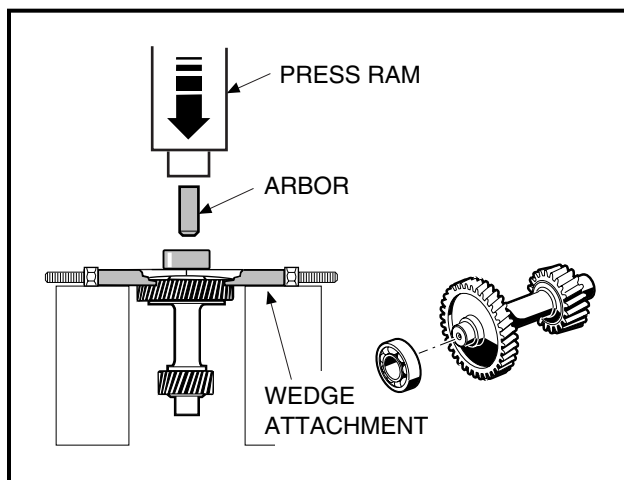

Figure 5-22 Remove Idler Shaft
2. Place a bearing puller wedge attachment (CCI P/N 1012812) between the bearing and the larger gear on the idler shaft (65) (**Figure 5-11, Page 5-7**), then press the bearing off the shaft as shown (**Figure 5-22, Page 5-13**).